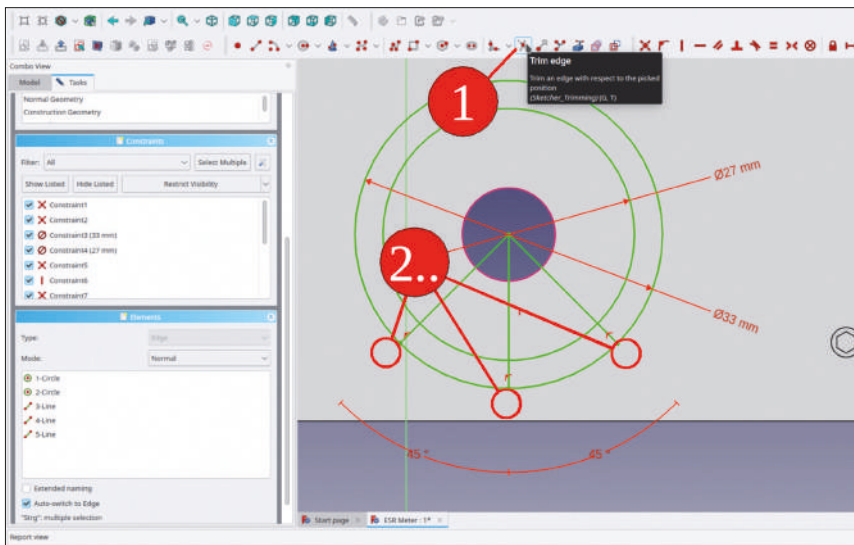

Figure 8-20
6. Trim the parts of the lines which are located outside the larger circle (Figure 8-20).